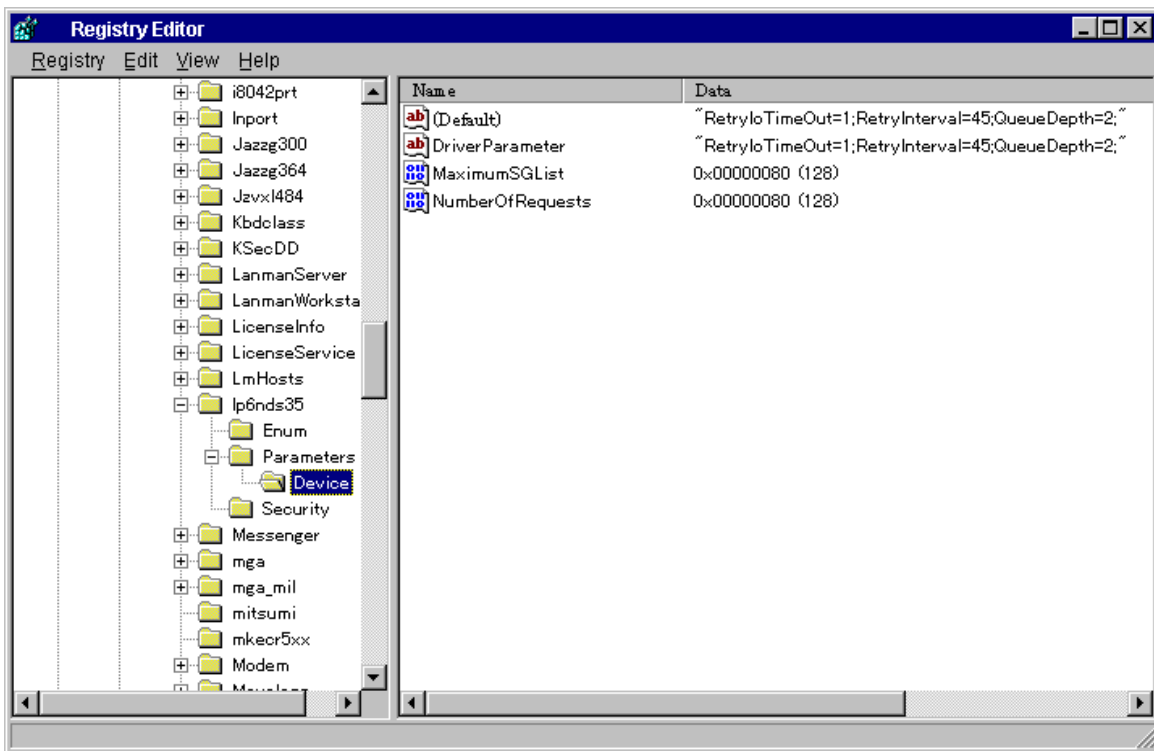

Figure 2.4 Verifying the Queue Depth (Emulex FC adapters shown)
2. For each Emulex FC adapter (see Figure 2.4):